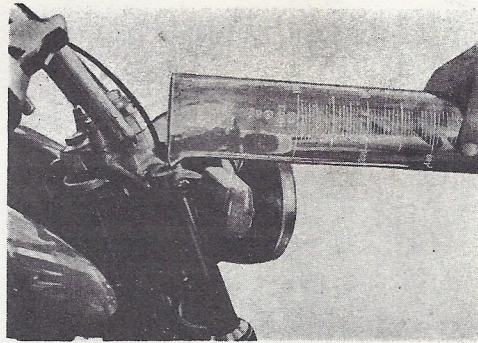

Fig. 4-3-12
- c. Feed front fork oil into the inner tube through the upper end. (Fig. 4-3-12)